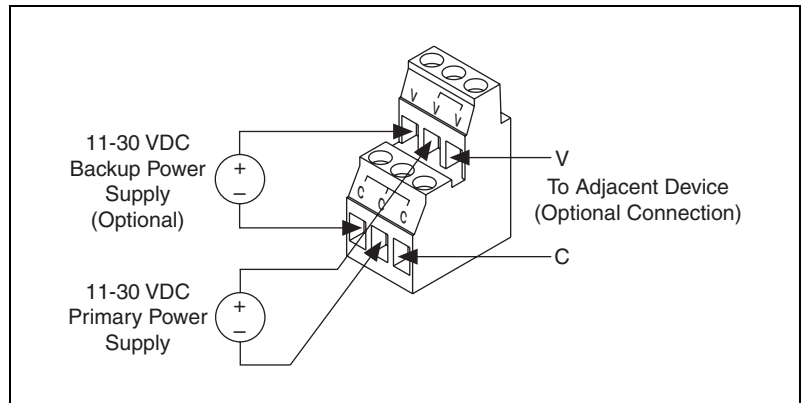

Figure 6. FBUS-HSE/H1 Power Connector Pinout
7. Connect the primary 11–30 VDC power supply to the center V and C pair with the positive and negative wires on your power cable in the V and C terminals, respectively. You can connect an optional backup power supply to the left V and C pair. The power connector is a 6-pin screw terminal power connector whose pinout is shown in Figure 6.